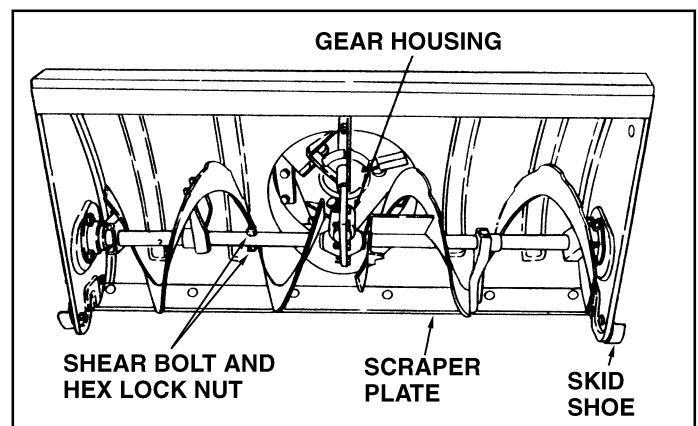

FIGURE 34
2. If the augers will not turn, check to see if the shear bolts have sheared. See figure 34. Two replacement shear bolts and hex lock nuts have been provided with the snow thrower. For future use order part number 710-0890A shear bolt and number 43064 hex lock nut.